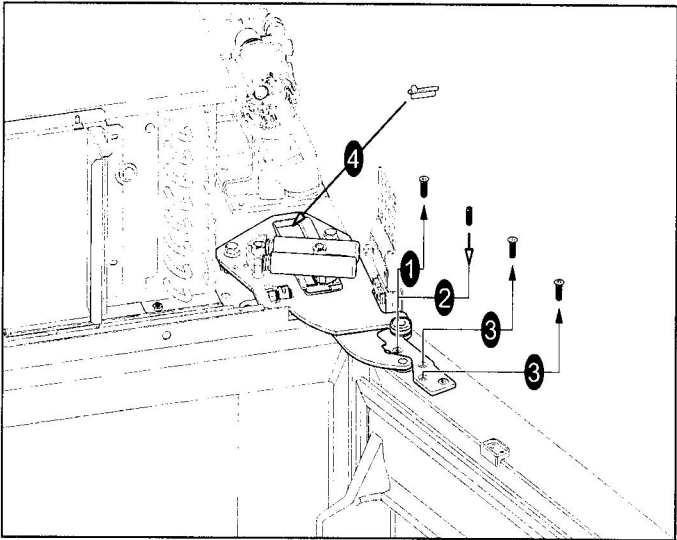

Figure 7-88. Top Door Hinge Screw Removal, Setscrew Installation and Spacer Installation
- 1. With the door open, use a 5/32" Allen wrench or bit to extract the top door hinge mounting screw nearest to the hinge pivot point (See Figure 7-88).
- 2. Use a 1/8" Allen wrench or bit to replace the screw just removed with the 1/4-20X1/2" setscrew, included in the tool package, inserting the setscrew down until its top is flush with the top surface of the door hinge (See Figure 7-88).
- 3. Extract the inner door hinge mounting screws, leaving the outermost screw in place (See Figure 7-88).
- 4. insert the hinge spacer, included in the special tool package, between the door closer guide and the back of the door closer track, then close the door (See Figure 7-88).